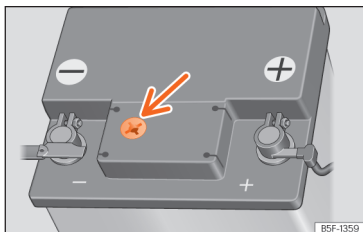

Fig. 179 Sight glass on the top of the 12 volt battery (schematic representation).
- Check the colour display in the sight glass on the top of the battery >>> Fig. 179.